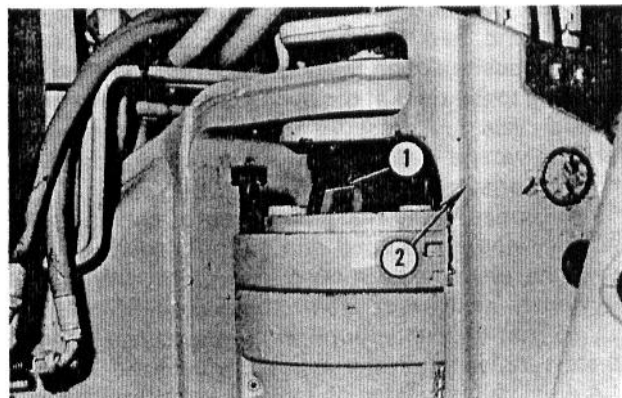

Fig. 26 — Removing/Installing Tubular Stops
NOTE: Lift tubular stop upward and at an angle through center hole in pivot casting. Push boom until hole in casting aligns with hole in back frame and remove tubular stop. Repeat for other tubular stop, see fig. 26.
7. Remove capscrews securing top plate to barrel assembly ... then drop 1/2" x 3" dowel pins into the three bolt holes containing capscrews with washers (see Fig. 26.)